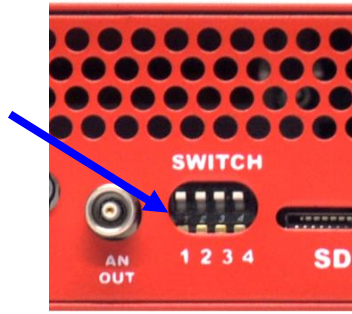

Figure 21: SWITCH position for update firmware
- Set the SWITCH #1 on the rear panel to be positioned high, as illustrated in Figure 21;